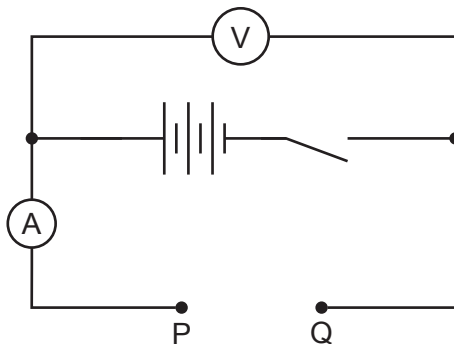

Figure 3.1
- 2 The supervisor must arrange the circuit shown in Figure 3.1 for the candidates in advance of the examination.
The circuit must be restored to its original state as shown in Figure 3.1, with the switch open and the resistors placed by the side of the circuit.